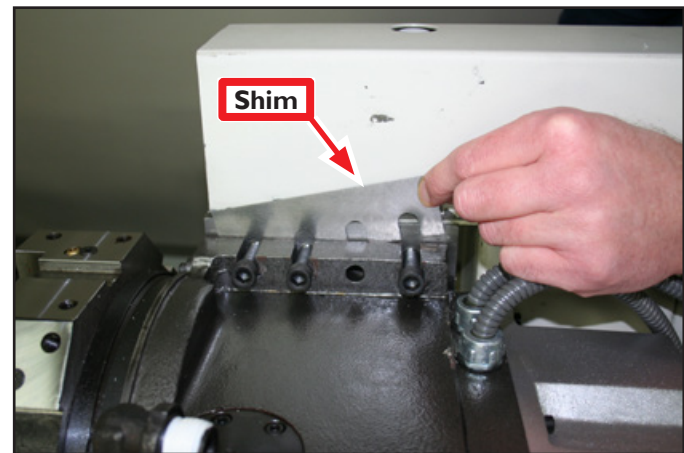

Figure 27
9. To add shims to back of turret, pull backward on it to create a gap; insert the required shim(s) as shown in **Figure 27**.